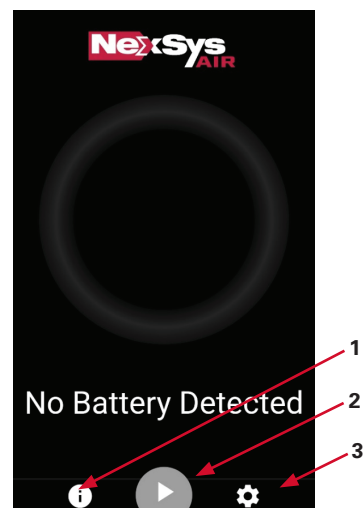

Figure 6
**Charge display menu:** with the charger in wait mode (no battery connected) and without pressing the Start/Stop button, the display will show the following information in **Figure 6**.